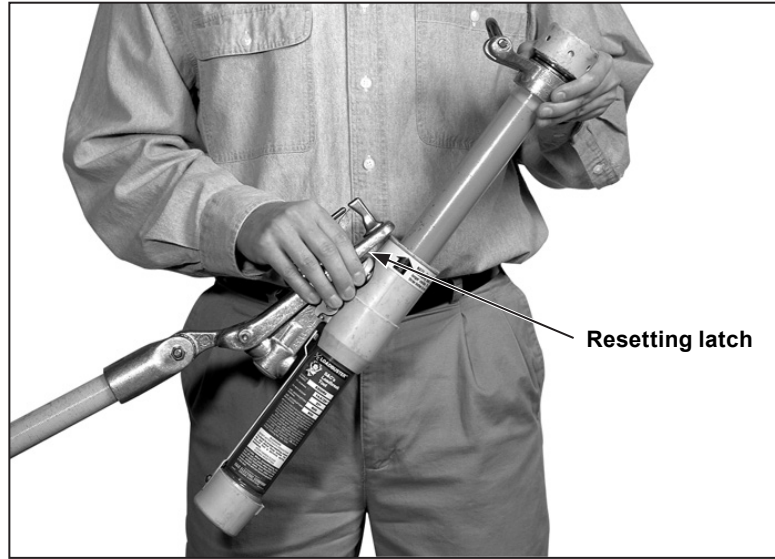

Figure 7. Resetting Loadbuster.
**Step 5** To reset Loadbuster for the next operation, hold as shown in Figure 7. Extend the tool slightly and lift the resetting latch with the thumb. With the latch up, telescope the tool completely so the trigger can reset itself. Check for proper resetting by extending the tool about three inches. Throughout this travel an increasing spring resistance should be felt.